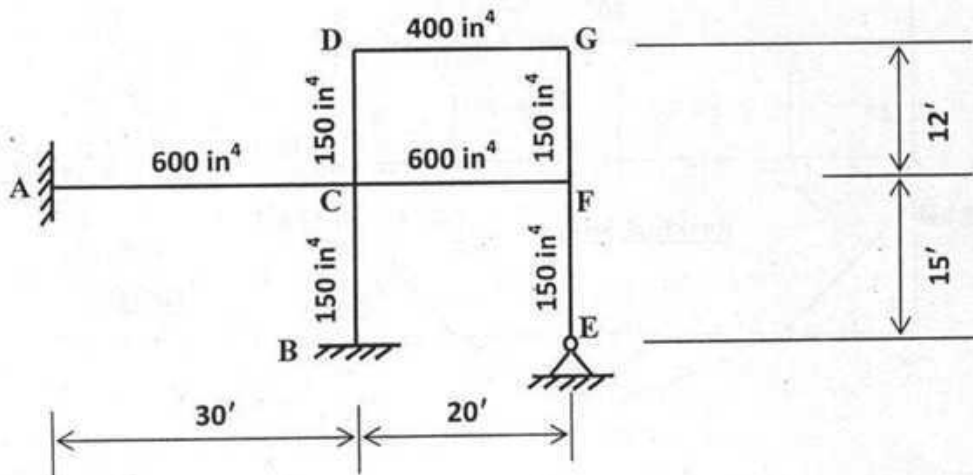

Fig. 4
4. Determine the effective length coefficients for the columns BC, EF, CD and FG of the frame shown in Fig. 4. The relevant moments of inertia of the members in inch^4 are shown in the figure. The Nomographs are provided in Annexure-1. Given: The multiplication factors for stiffnesses for a beam with far end fixed are $2/3$ (with sidesway) and 2 (without sidesway).